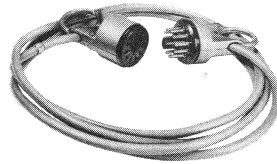

Fig. 34—P11C Test Cord
*Note:* A P11C test cord (Fig. 34) may be used with 1-type sets in lieu of the cover parking tool, and on all 2-type sets.
3	For a 2-type set: Open door and faceplate assembly and connect a P11C cord (Fig. 34) between P1 and J1.